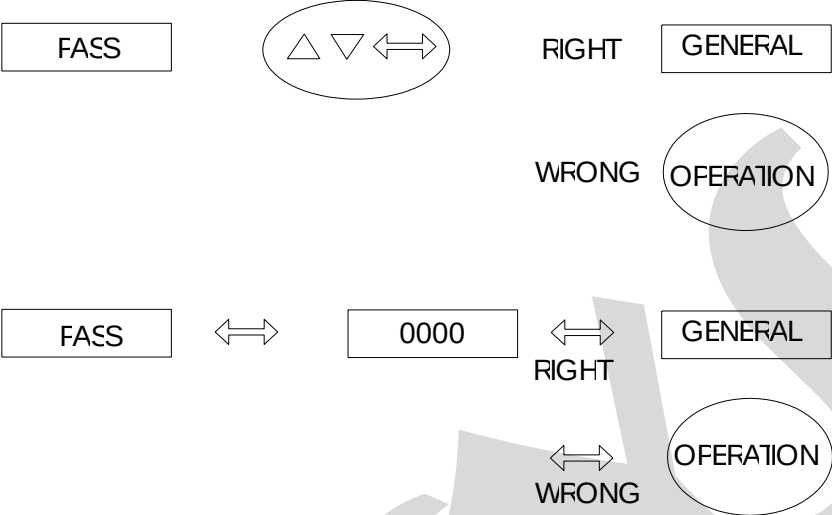

Figure 9 - Password by Key and by value
- The display shows the warning PASS, this fact means that the instrument has a password either by Key or by value (Refer to Figure 9).